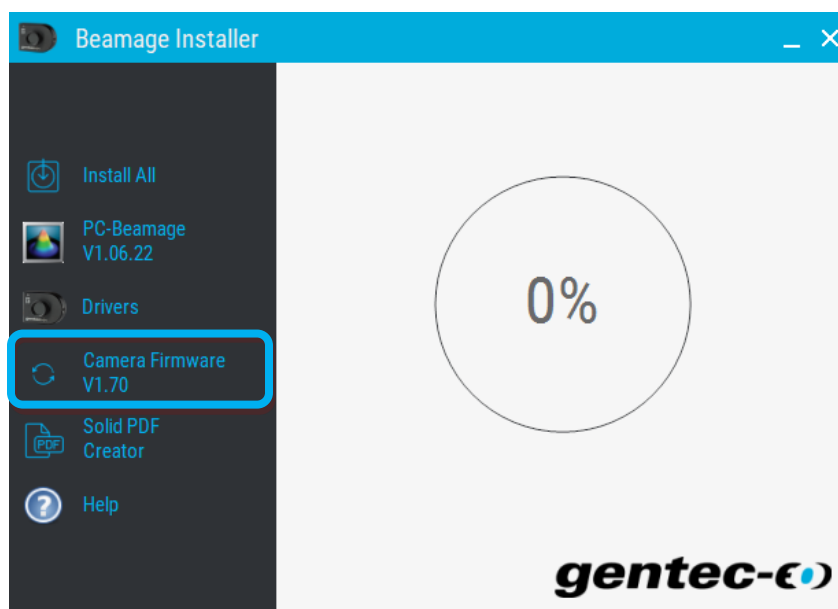

Figure E-1 Camera Firmware Button.
- 4) Click on the "Camera Firmware" button, see Figure E-1.